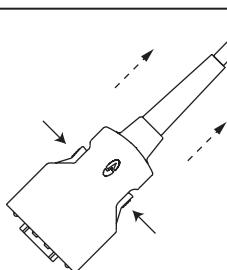

Fig. 4
- Refer to Fig. 4. Press firmly on the gray buttons and pull to remove the sensor.